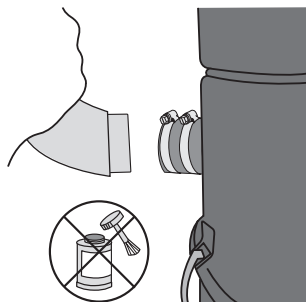

figure 3
Contrary to all other connections in the piping system, do not glue the last fitting to your unit. Use the provided rubber seal and clamp collars to secure the last fitting to the air intake and obtain an air-tight fit (**figure 3**).
1. Secure the T-elbow on the air intake (see page 5, **figure 3**).